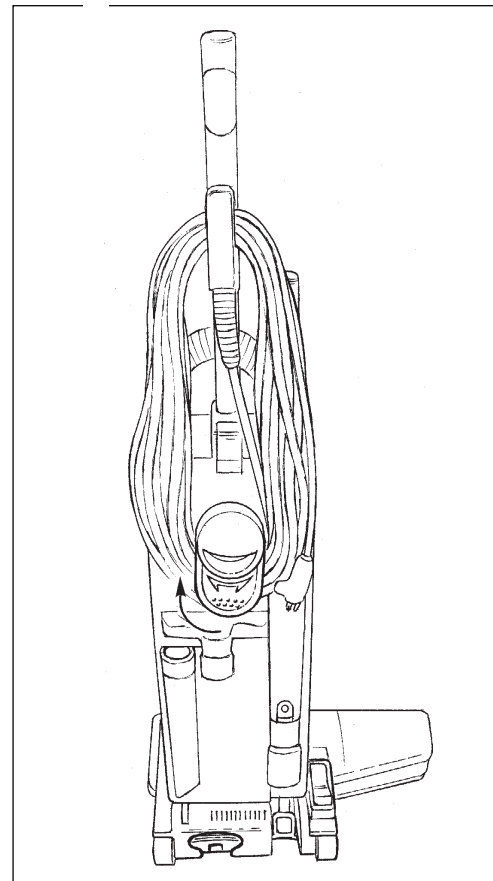

Figure 13
**The Cord Storage Hooks** (See figure 13)